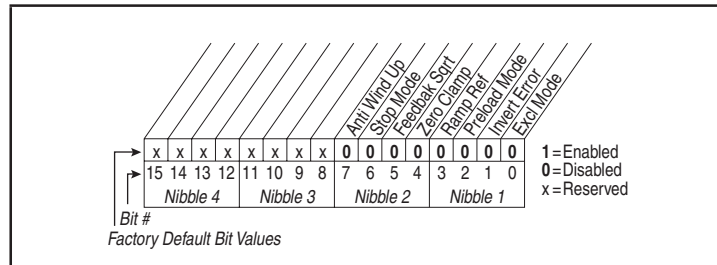

Figure 11.10 – PI Configuration (124)
**Range:** See figure 11.10
**Default:** See figure 11.10